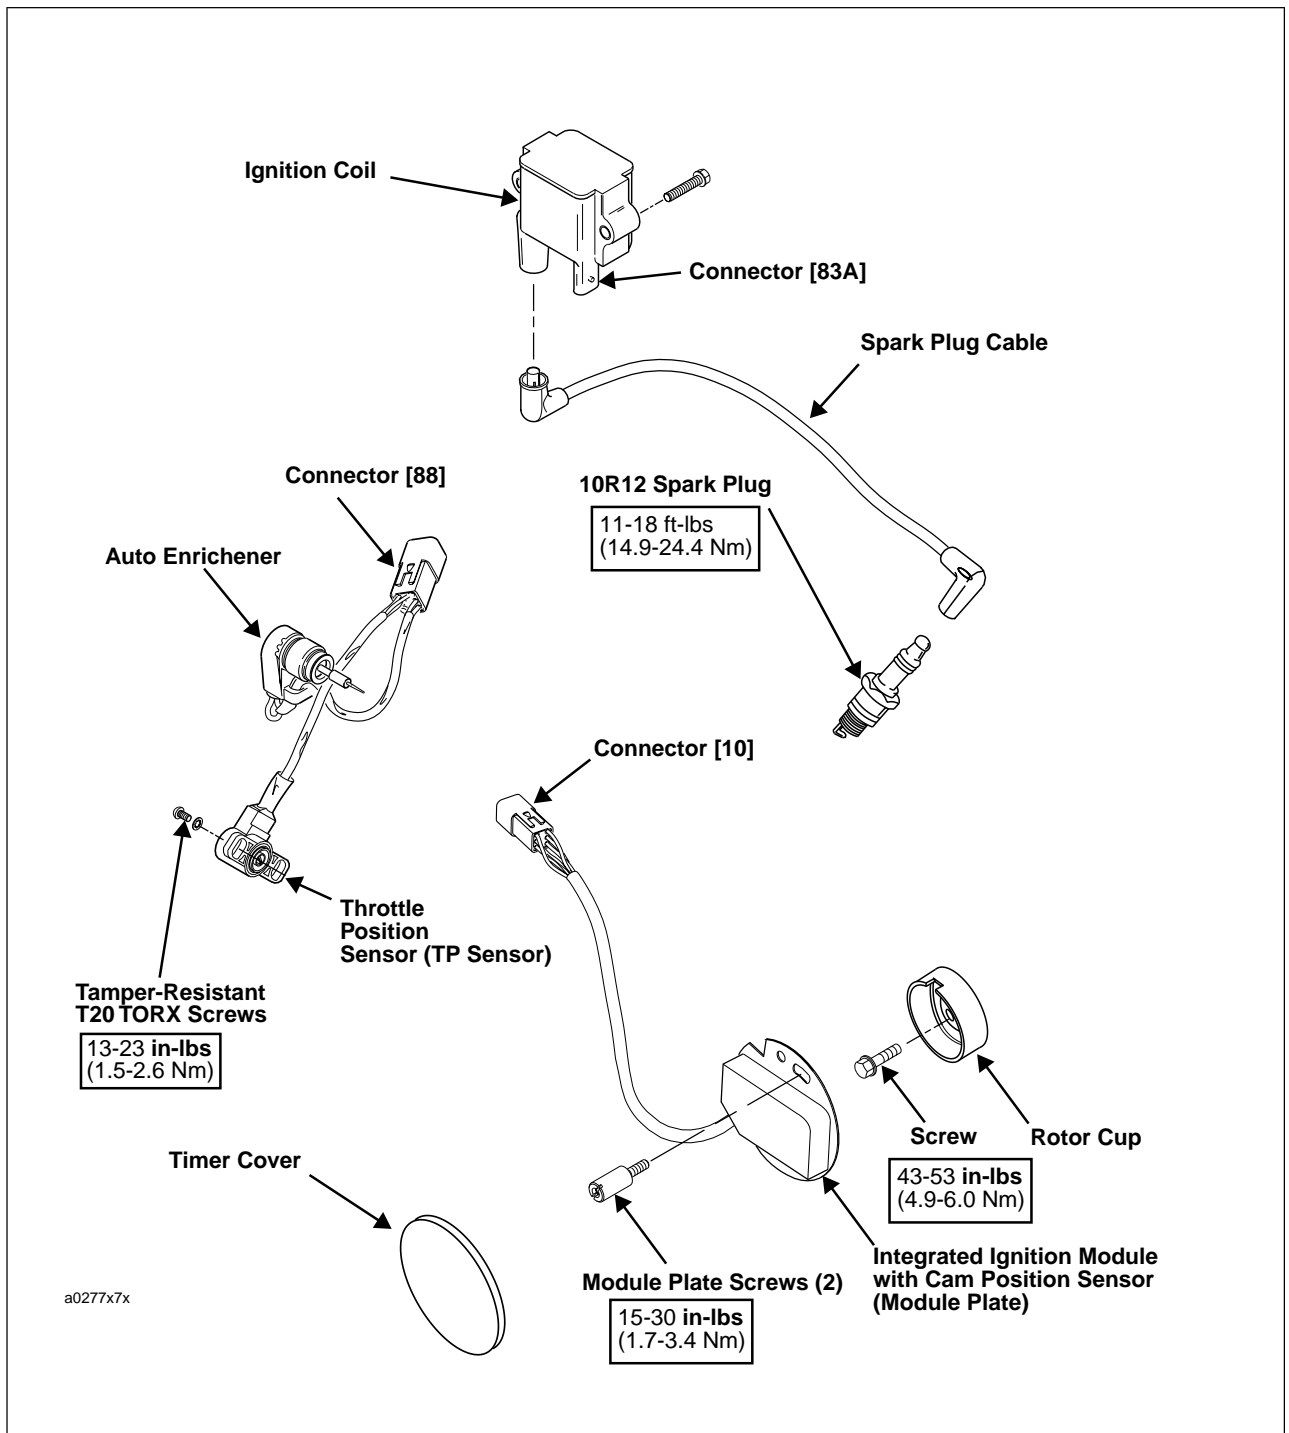

Figure 7-19. Ignition Module/Cam Position Sensor
9. See Figure 7-19. Remove two module plate mounting screws. Carefully remove module plate. Remove screw and rotor cup.